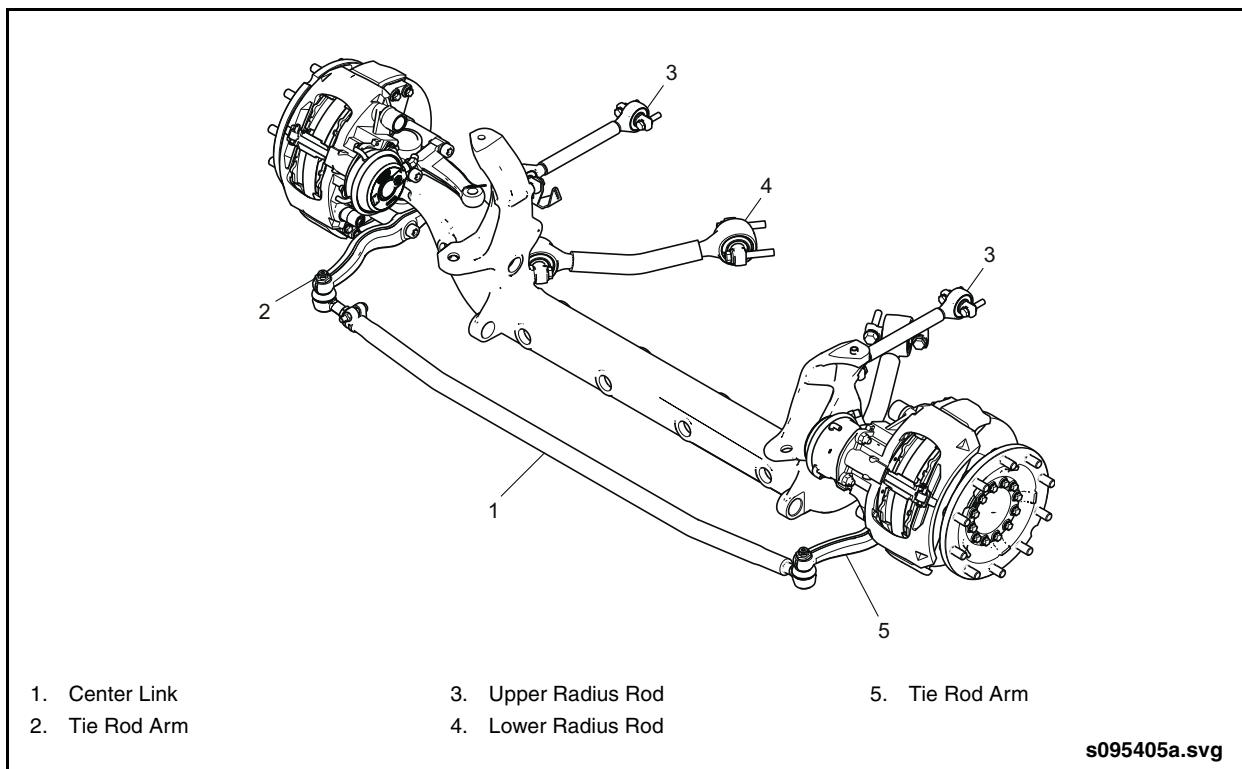

Fig. 1-3: Axle Lowered from Vehicle
13. Carefully lower axle and wheel assembly to floor with lift system. Use appropriate lifting equipment to lift the axle onto an adequate work stand. See "Fig. 1-3: Axle Lowered from Vehicle" on page 4.